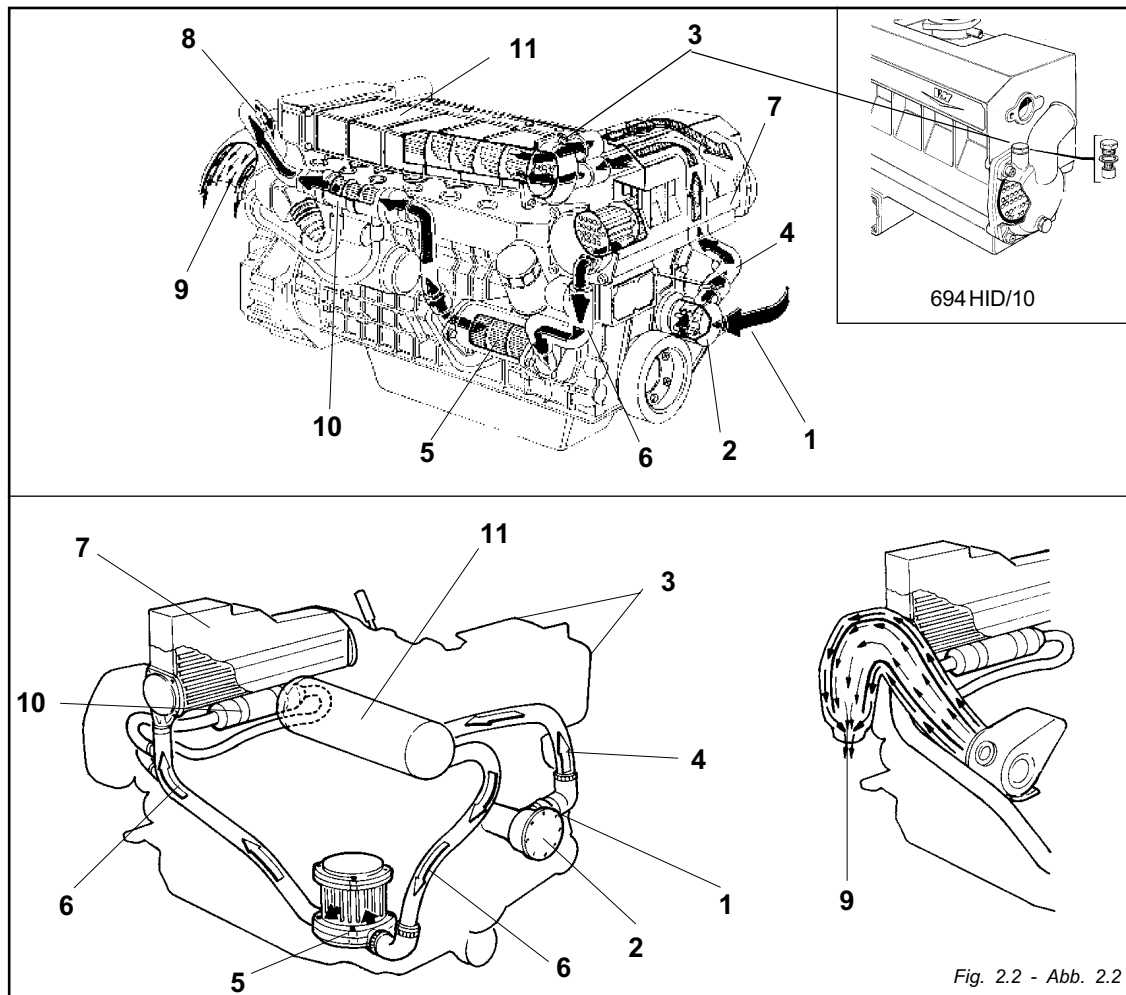

Fig. 2.2 - Abb. 2.2
"Acqua marina" (Fig. 2.2)**
"Eau salée" (Fig. 2.2)**
2.2.2 "Seawater" cooling circuit (Fig. 2.2)
"Salzwasser" (Fig. 2.2)**
2.2.2 Circuito de refrigeración "Agua marina" (Fig. 2.2)